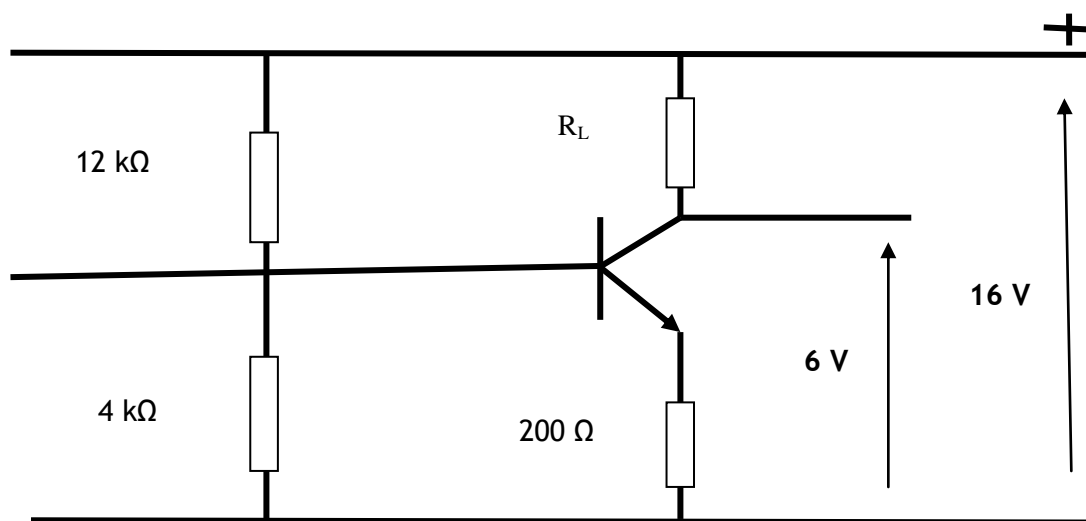

Fig Q3
3. The p.d. between base and emitter for the transistor shown in Fig Q3 is $0.3\ \text{V}$ and the steady state output voltage V_c is $6\ \text{V}$.